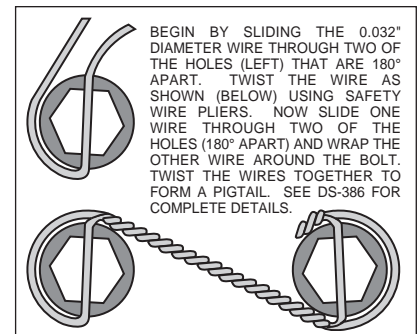

Figure 4. Safety Wire Diagram
- Install the grease seal (6) by pressing into the backside of the hub (4).
- Pack the small outer bearing cone (12) with high temperature disc brake bearing grease and install into front side of the hub (4). Slide the hub assembly (4, 5, 6 and 12) onto the spindle. Secure using spindle washer (13), stock adjusting nut, and nut locking device. Adjust wheel bearing pre-load per Original Equipment Manufacturer (OEM) specifications.
- Install the O-ring (14) and the dust cap (15) into the hub (4). **NOTE:** O-ring (14) friction will not allow cap (15) to unscrew on its own.
- With the larger I.D. side of the rotor (7) facing away from the hat (8), bolt rotor (7) to hat (8) through the backside of the rotor using washers (9) and bolts (10). Torque bolts (10) in an alternating sequence to 85 **in-lb**. Safety wire bolts (10) using standard 0.032 inch diameter stainless steel safety wire as shown in Figure 4. Please refer to Wilwood's data sheet DS-386 (available at www.wilwood.com/pdf/ds386.pdf) for complete safety wire installation instructions.
- Slide the rotor/hat assembly over the studs (3) in the hub (4) taking care to align the small countersunk holes in the hat (8) with the small threaded holes in the hub (4). Install three flat head socket head screws (11) through the small holes in the hat (8) and torque to 85 **in-lb**. Check to be sure the hat seats squarely against the hub face.
- NOTE:** Please reference the caution statement at the beginning of the assembly instructions. The caliper mount brackets (16) should be installed first with clean, dry threads on the mounting bolts (17). Place sleeve (19) into the holes on the radial mount caliper bracket (16). Install the radial mount caliper bracket (16) on the backside on the flat caliper bracket (1) by sliding bolt (17) through washer (18) and through the bracket holes. Place spacer (20) and shim washer (21) between the two brackets and screw bolt (17) into insert nut on the flat caliper bracket (1). Finger tighten bolt (17). Use one thin shim (21) between the two brackets (1 and 16) during initial trial fitting.
- Lubricate caliper mounting studs (23) and nuts (26) with lightweight oil. Install two shim washers (24) over each pre-installed stud (23) on the radial mount bracket (16). Slide the caliper (22) in place over the studs and rotor, then install the washer (25) and lock nut (26) to hold the caliper in place. The caliper bleed screws should be pointing up.
- View the rotor (7) through the top opening of the caliper (22). The rotor (7) should be aligned in the center of the caliper (22). If not, adjust the radial mount caliper bracket (16) by using shims (21 and/or 28)) placed between the two brackets (1 and 16). Add as many shim washers (21 and/or 28) as necessary to achieve the correct alignment. Always use the same amount of shims on both the top and bottom radial mount caliper mounting bolts (17). Finger tighten and recheck alignment, adjust as necessary. Apply red *Loctite*® 271 to bolt threads (17) and torque to 47 ft-lb.
- Remove the caliper center bridge pad retainer bolt, nut, and tube from the caliper. Slide the brake pads (27) into place. They should install easily without interference. Check that the outside radius of the brake pad is flush with the outside diameter of the rotor face. Add or subtract shims (24) between the caliper and mount bracket to gain the proper alignment. Reinstall the caliper and torque the caliper nuts (26) to 30-35 ft-lb. Reinstall the center bridge pad retainer tube, bolt, and locknut. The locknut should be snug without play in the bolt or tube. Be cautious not to over tighten.